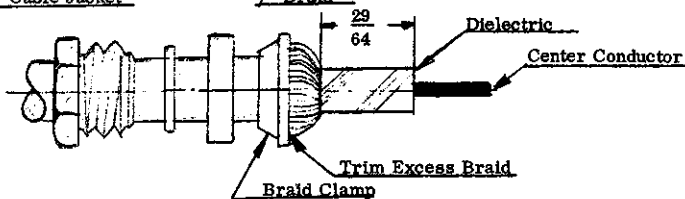

FIG. 2
3. Fold braid wires forward and taper toward center conductor. Place braid clamp over braid and set firmly against cable jacket. Fold braid wires back in even distribution and trim excess braid where indicated. Check for exposed dielectric dimension shown and retrim if necessary (Fig. 2).